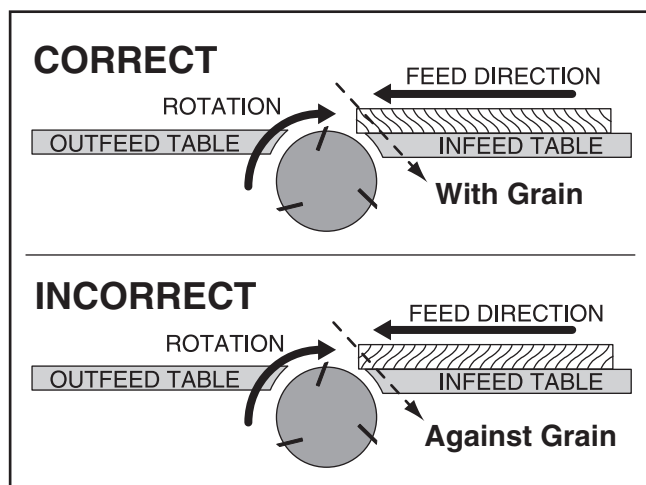

Figure 29. Proper grain alignment with the cutterhead.
- **Jointing and surface planing with the grain is safer for the operator and produces a better finish.** Cutting against the grain increases the likelihood of kickback and workpiece tear-out. **DO NOT** cut against the grain! Cutting with the grain is feeding the stock across the cutterhead so the grain points down and back, as viewed from the front edge of the stock (see **Figure 29**).